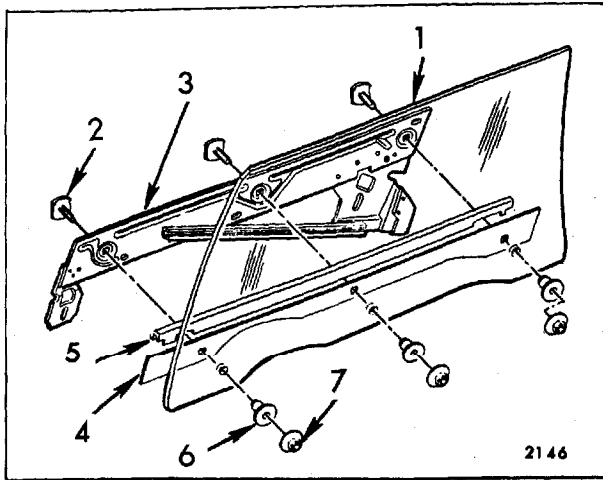

Fig. 7-76—Front Door Window Assembly - All "37-39-47-57 and 67" and "C-69" Styles
Figure 7-76 is an exploded view of the front door window assembly and identifies the various components and their assembly sequence.
**NOTE:** If cam adjustment does not correct condition, loosen glass to sash channel attaching bolt nuts (Fig. 7-76) and reposition glass on sash channel. The sequence for making this adjustment is to first obtain flush alignment between lower sash channel and outer strip assembly at the belt line. Then, loosen glass bolt nuts and adjust glass.